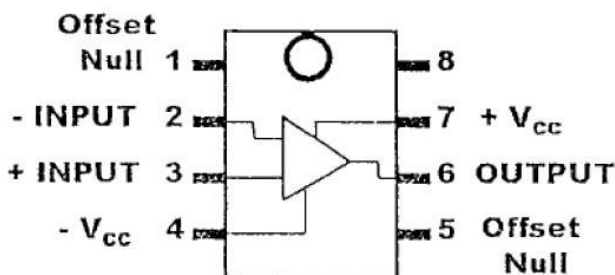

Figure 2. Pin numbers for LM 741 op amp
Accordingly,, for LM741 op amp chip you see in reality, the pin numbers are shown in Fig2:
- Build the circuit according to the figure below. (You may refer to Fig.2).  $R_F = 100$ ,  $R_A = 50$ . Note:
- Build the circuit according to the figure below. (You may want to refer to Fig.2).  $R_F = 100$ ,  $R_A = 50$ . Note: